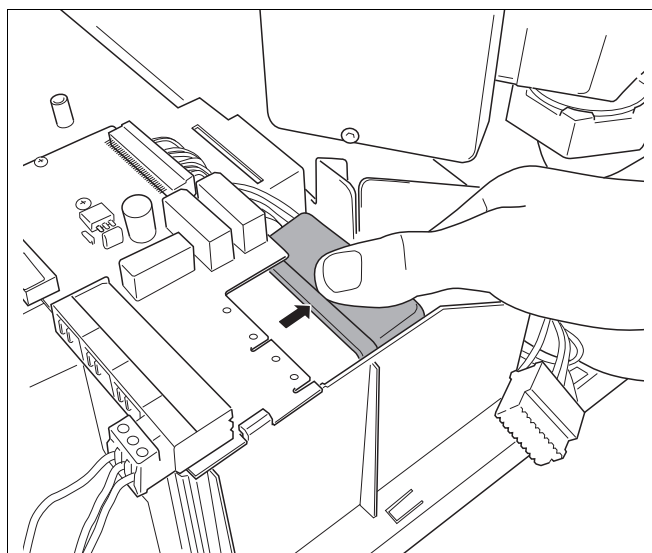

fig. 66 Removing the transformer shield
- Remove the transformer shield (see fig. 66).